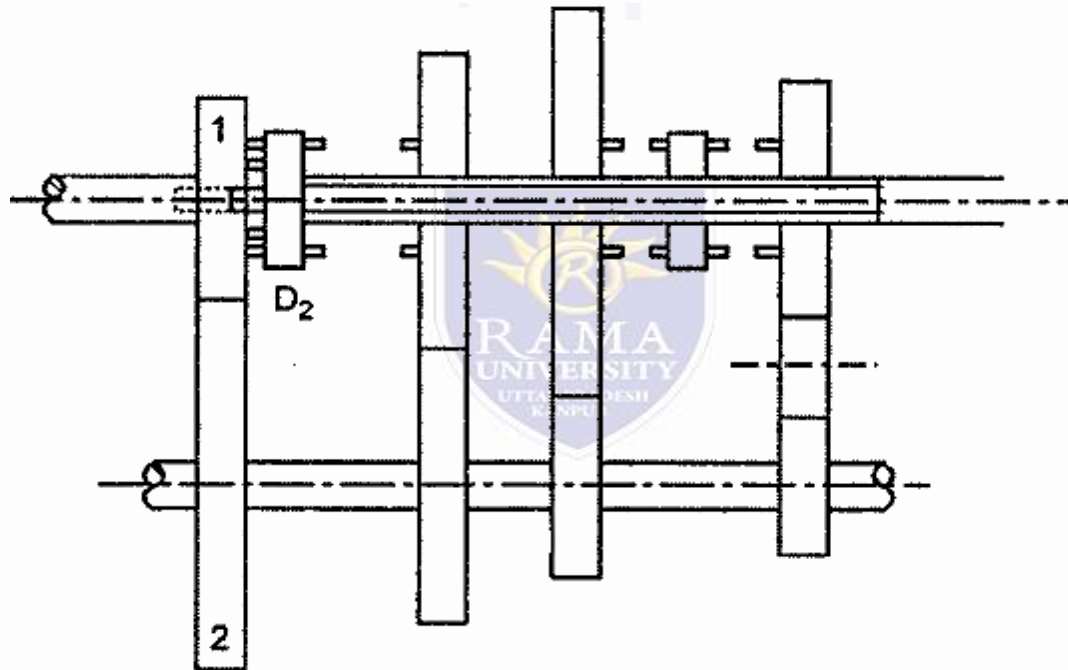

Figure 3.24 Third gear of constant mesh gearbox
- The dog clutch (D2) is moved left to engage with the gear (1) on clutch shaft as shown in Figure 3.24. Now, the engine speed is directly supplied to the main shaft. It is called top gear speed
- First, the dog clutch O2 is disengaged. Then the dog clutch O1 is shifted to right to engage with the gear (6). Therefore, the power is transmitted from clutch shaft through (1) ~ (2) ~ (5) ~ (Idler gear) ~ (6) to dog clutch (O2) and then to the main shaft. The idler gear causes the main shaft to rotate in the opposite direction.